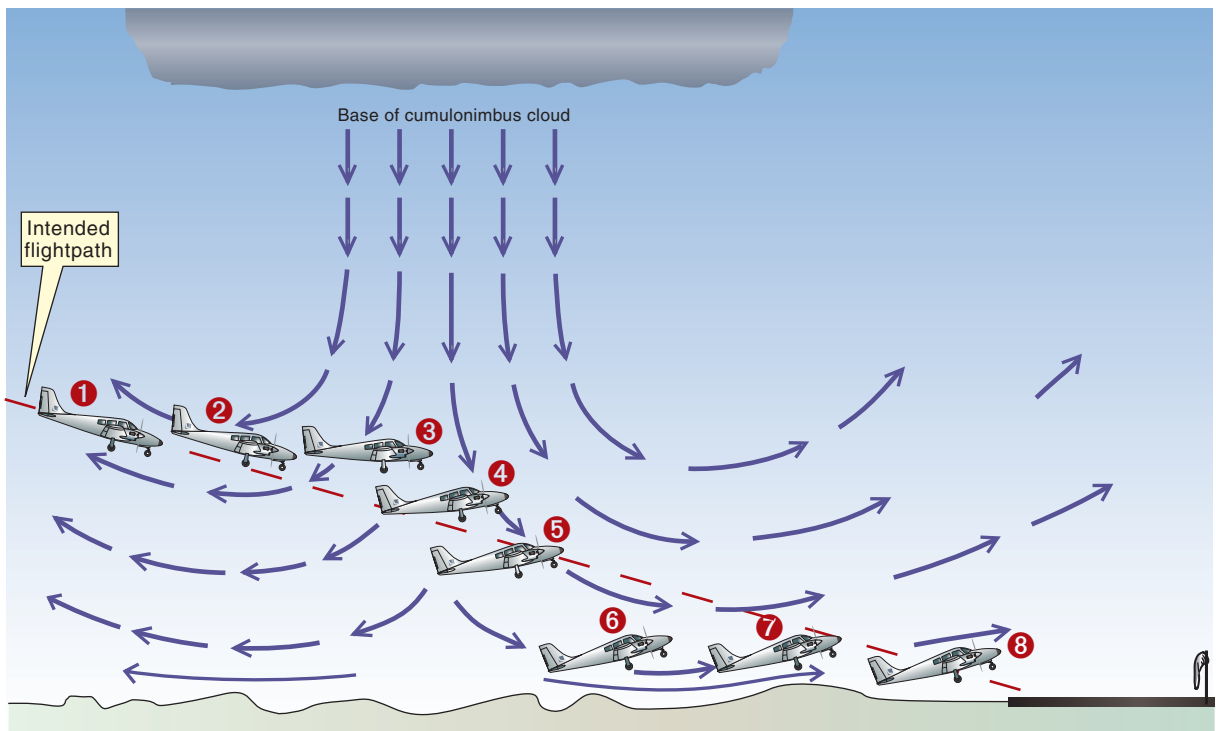

Figure 34-10 Microburst on approach.
30. Refer to figure 34-10 (page 715). Describe the effect on performance and the cause of this effect on the airplanes in the following positions: